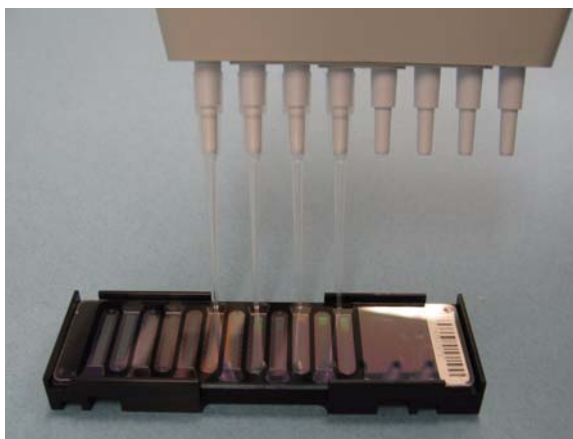

Figure 38 Loading Samples A2–D2
- c. Load samples A2–D2 into the remaining four inlets on the right side of the BeadChip (Figure 38).